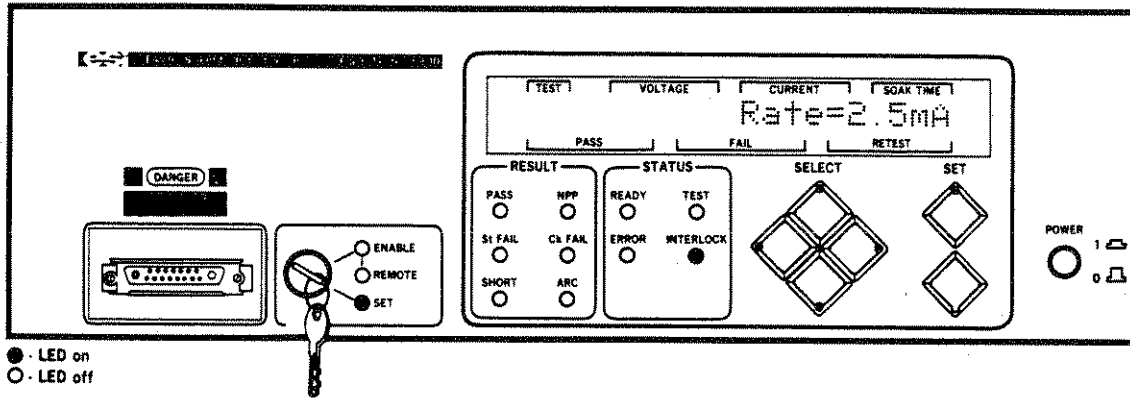

Figure 3-27. Setting the Lowest Charge Rate
STEP 13. Hold the DEC pushbutton down until its LED is no longer illuminated. The display should indicate the lowest Charge Rate available. Figure 3-27 is an example of this.